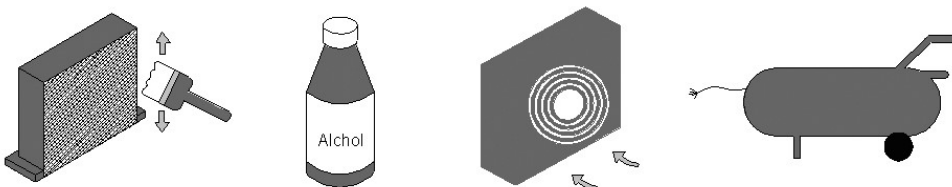

Figure 6 Cleaning of the Condenser
- With the use of an air jet or dry brush with rigid bristles, eliminate, with a vertical movement (as shown in Fig. 6), the dust and down from the wings.